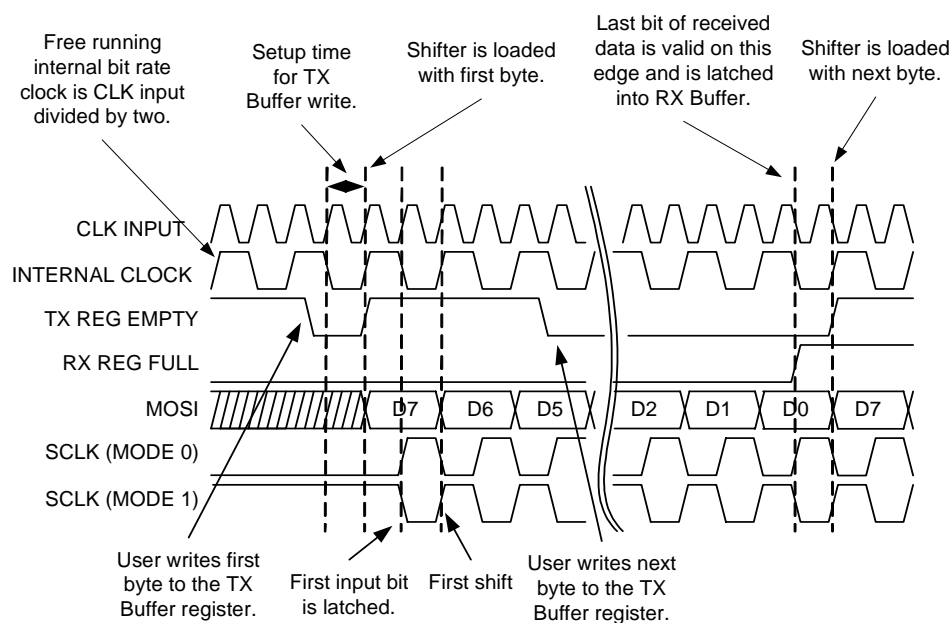
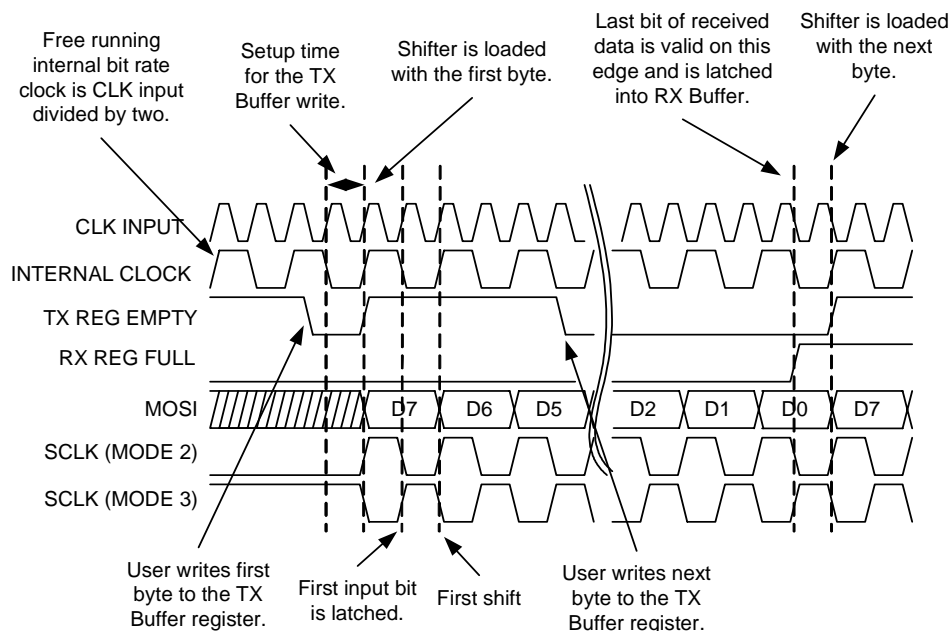

Figure 17-15. Typical SPIM Timing in Mode 0 and 1
Figure 17-16. Typical SPIM Timing in Mode 2 and 3
**Normal Operation.** Typical timing for a SPIM transfer is shown in Figure 17-15 and Figure 17-16. The user initially writes a byte to transmit when TX Reg Empty status is true. If no transmission is currently in progress, the data is loaded into the shifter and the transmission is initiated. The TX Reg Empty status is asserted again and the user is allowed to write the next byte to be transmitted to the TX Buffer register. After the last bit is output, if TX Buffer data is available with one-half clock setup time to the next clock, a new byte transmission will be initiated. A SPIM block receives a byte at the same time that it sends one. The SPI Complete or RX Reg Full can be used to determine when the input byte has been received.